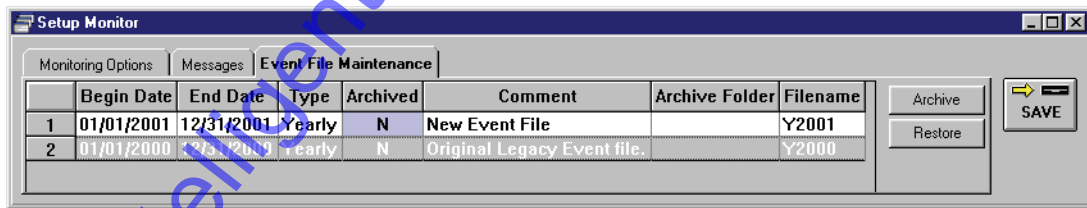

Figure 5-15: Event File Maintenance Window - Ready To Archive
3. Click on the file to be archived. The window should appear similar to Figure 5-15.